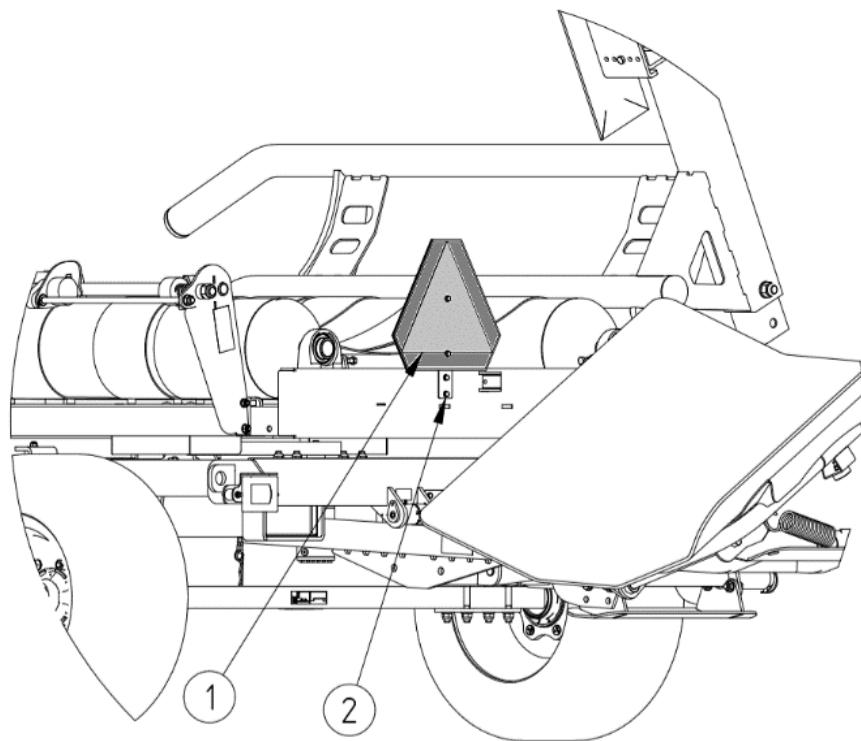

Figure 23 Place for attaching a plate for distinguishing a slow-moving vehicle
- Attach a warning triangle for distinguishing a slow-running vehicle for the time of driving on public roads, see Figure 23